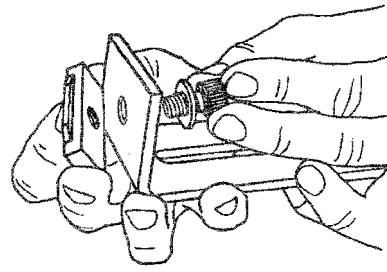

Fig. 3
3. Place a $\frac{3}{8}$ " washer (7) on a $\frac{5}{8}$ " long cap screw (6). Thread the screw through the bracket (8) and into the $\frac{3}{8}$ " T-nut (5), as seen in Fig. 3. Do not tighten yet.